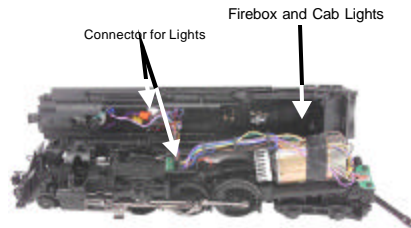

Figure 9
2. Unplug the black wires from their connector (see figure 9).